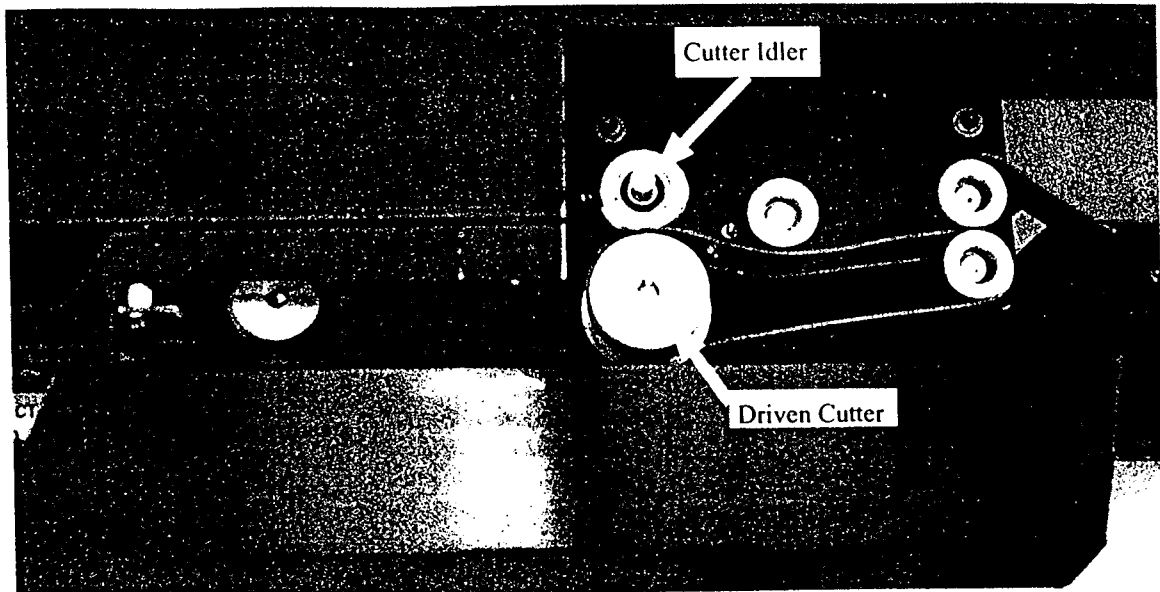

Fig. 3. Cutter Assembly
4. Install the cutter idler. (See Fig. 3..)
3. De-stripping checks may result in adhesive build-up on the cutter assembly that may impair operation of the machine. When adhesive build-up is observed, Check-Tech recommends using WD-40® on a cotton swab to dissolve the build-up on bottom of the idler side and the top of the driver side of the cutter assembly. (See Fig. 3.)